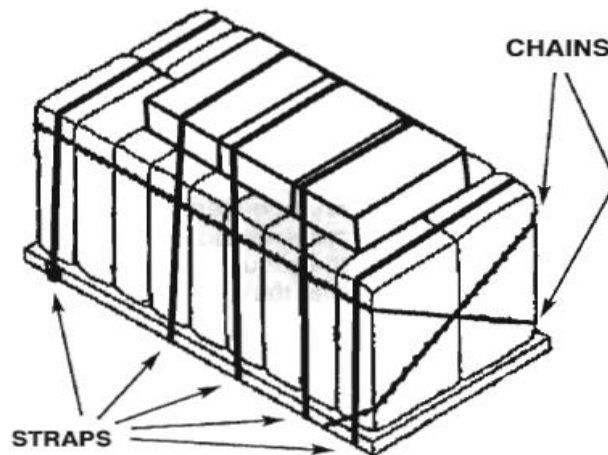

Figure 3
(1) One perimeter binder shall be attached near the front right corner of the trailer bed, extended across the front of the load to a point not less than two-thirds of the height of the front left corner bale (measured from the trailer bed), extended around the side at the same height to the rear left corner bale of the load, and fastened near the rear right corner of the trailer bed, and;
(2) The second perimeter binder shall be attached near the front left corner of the trailer bed, extended across the front of the load to a point not less than two-thirds of the height of the right corner bale (measured from the trailer bed), extended around the side at the same height to the rear right corner bale of the load, and fastened near the rear left corner of the trailer bed, **see figure 3.**